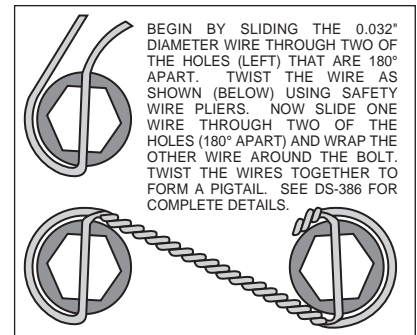

Figure 3. Safety Wire Diagram
- The rotor (3) has two sides. A flat side and an inset side. Bolt hat (2) to flat side of rotor (3) by sliding one of the T-nut's (4) into the "T" slot on the hat and attaching the rotor using a lock washer (5) and bolt (6) through the mounting holes in the rotor (3) into the corresponding hole in the T-nut (4). Finger tighten only at this time. Repeat this procedure for the remaining T-nut's, lock washers and bolts. Insert the T-nut tool (supplied in the bolt kit) into the slot between the T-nut (4) and hat (2) up to the flat spot on the T-nut tool shaft. Torque bolt (6) to 198 **in-lb**. Remove T-nut tool and insert into the T-nut slot on opposite side of hat and torque bolt (6) to 198 **in-lb**. Repeat until all T-nuts (4) have been tightened and torqued to proper specification. Safety wire bolts (6) using standard 0.032 inch diameter stainless steel safety wire as shown in Figure 3. Please refer to Wilwood's data sheet DS-386 (available at www.wilwood.com/Pdf/DataSheets/ds386.pdf) for complete safety wire installation instructions.